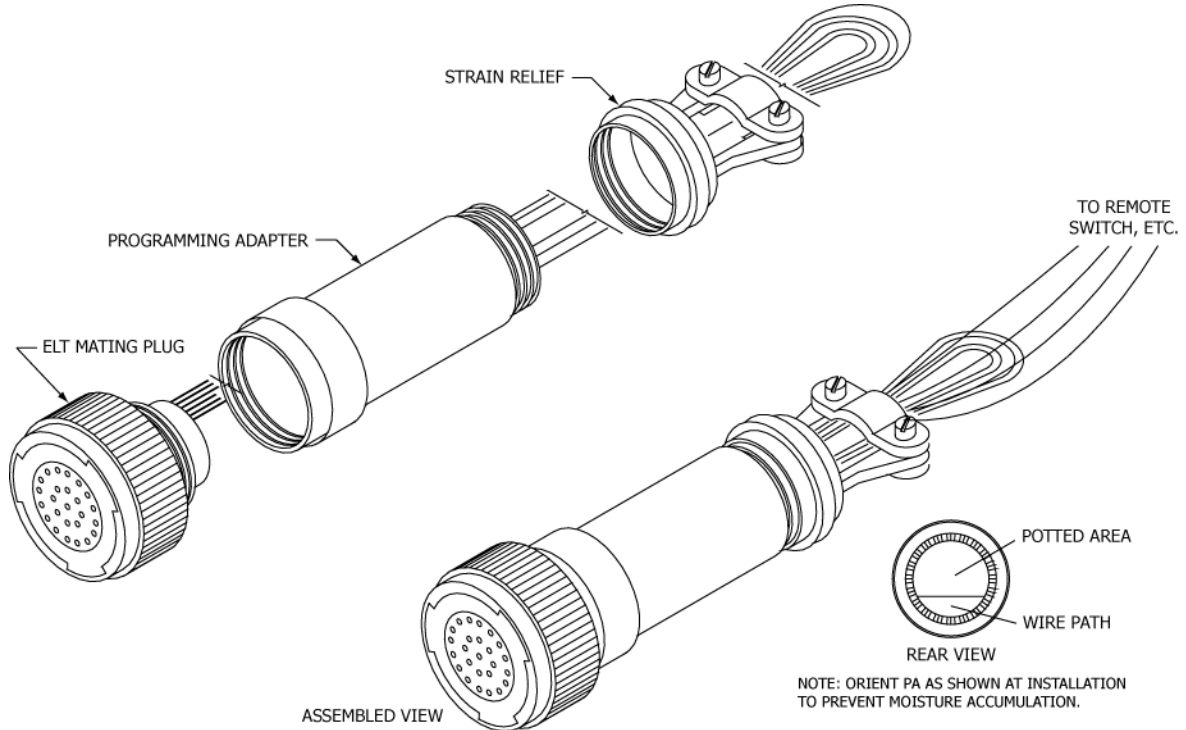

Figure 30 Programming Adapter
- 1) The Programming Adapter (PA) is an ELT 3000 option that provides the means to reprogram the ELT automatically every time the PA determines a new ELT with different programming has been placed in an aircraft.
- 4) The PA circuitry is encapsulated in the back shell extension and has six wires, with pre-installed contact sockets, that exit the rear of the PA. See Figure 30.
- 2) If the PA is undergoing installation on an aircraft with an existing ELT and remote switch harness, perform the following procedure, otherwise proceed to Step (3):
- 3) Loop the PA wires back through the wire path such that they exit at the front of the PA. See Figure 30 on page 76.
- 1) Screw the PA body (i.e., back shell extension) onto the ELT plug, taking care not to twist the wires while rotating the back shell extension coupling. See Figure 30 on page 76 for PA body orientation.